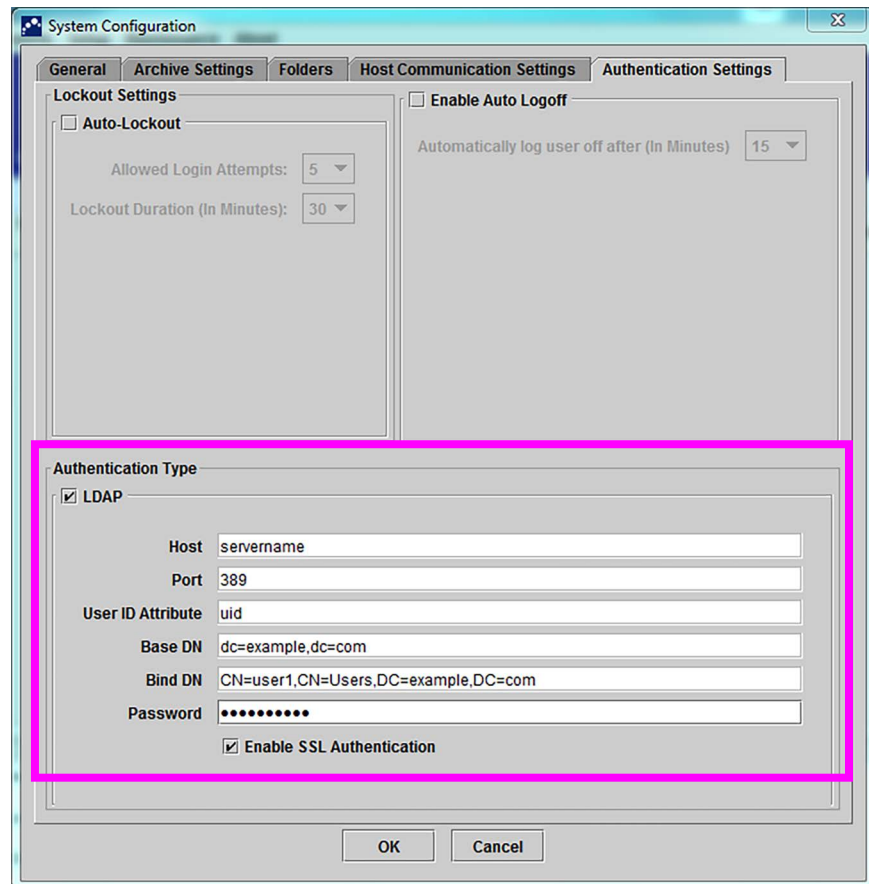

Figure 2-66. Authentication Settings Configured for LDAP
2. Click the **Authentication Settings** tab, the Authentication Settings information appears. See Figure 2-66.
- **Base DN**—Type in the base distinguished name (DN). A base DN is the point from where a server will search for users. An LDAP search for the user admin will be done by the server starting at the base DN (dc=example,dc=com).